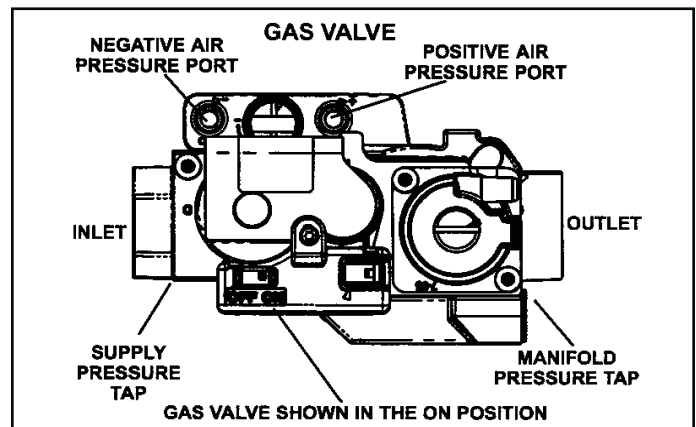

Figure 45.
See Figure 45
6. Move the gas valve switch to the OFF position. See Figure 45.
8. Move gas valve switch to the ON position. See Figure 45. **DO Not** force.